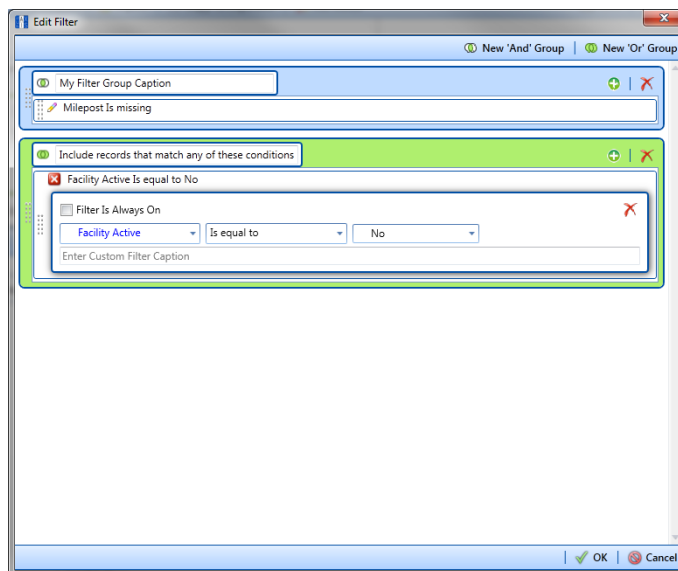

Figure 10-36. New 'Or' Filter Group
- a Click  **New 'Or' Group** to open a filter properties group box (Figure 10-36, page 523).